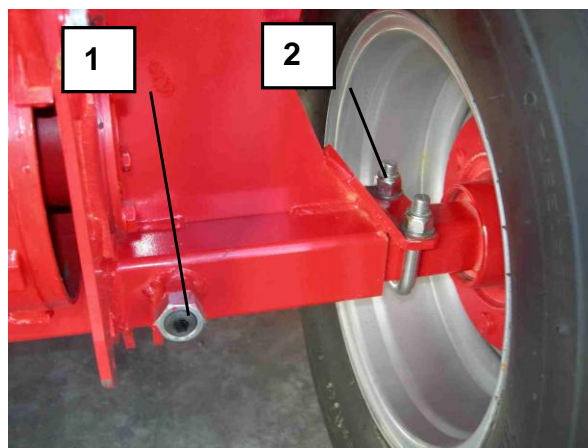

Fig 7 -Axle
Control before starting and working that the axle must be in correct position and that the screws (1) and (2) Fig. 7 are locked.
- Make sure the round baler is in a stable, horizontal position and that the tractor's towing hitch is positioned at the same height as the towing eye of the drawbar (2 Fig. 7) which can be adjusted by means of the joints (A Fig. 7). Where necessary, lower or raise the drawbar towing eye using the support leg (1 Fig. 7) .
For working in mountain, hill and in presence of high slopes, for obtaining a wider carriage-way, release the screws of U-bolt (2 fig.7) and unscrew the screw (1 Fig.7), take of the hub in the necessary position and screw again.